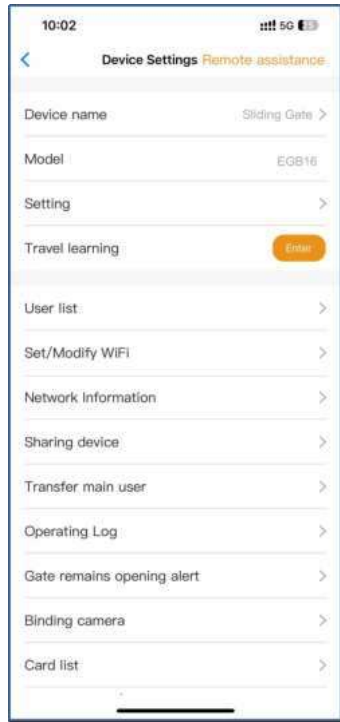

Fig 11
Step 1. Select the device, press the “⚙️” on the top right corner. Click the “Setting”. (Fig 11)